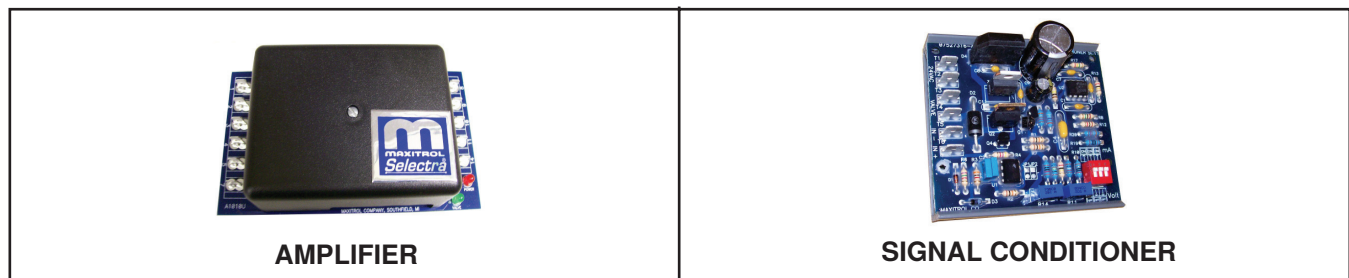
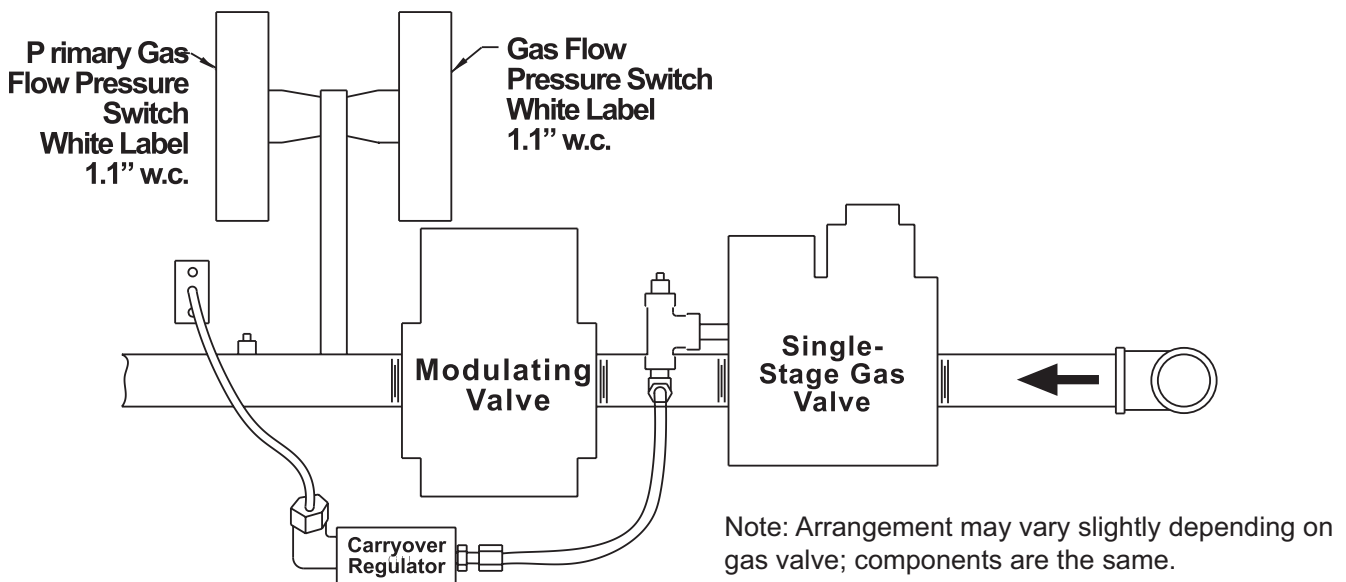

Figure 20. Maxitrol Amplifier and Signal Conditioner
Figure 21. Options AG39, AG40, and AG42 Manifold Arrangement
- **Electronic modulation between 50% and 100% firing rate (option AG8):** Electronic modulation for makeup air application that is controlled by a duct sensor and temperature selector (55–90°F (12.8–32.2°C)). The temperature selector setting for option AG8 is on the amplifier (see Figure 20). Available with an override thermostat.
- **Electronic modulation between 50% and 100% firing rate (option AG21):** With option AG21, the furnace is equipped with a Maxitrol signal conditioner (see Figure 20) that operates much the same way as the amplifier above to control the regulator valve. The signal conditioner accepts an input signal of either 4–20 milliamps or 0–10V from a customer-supplied control device such as a computer. With the dip switches on the conditioner positioned to ON, the conditioner accepts a 4–20 milliamp signal. With the dip switches on the conditioner positioned to OFF, the conditioner accepts a 0–10V signal. The conditioner converts the signal to the 0–20V DC current required to control the modulating valve.
- **Electronic modulation between 20–28% and 100% firing rate (option AG39):** Depending on its size, a furnace equipped with option AG39 has a 20–28% turndown ratio. The furnace will ignite at any input rate in the available range and will maintain average thermal efficiencies equal to or greater than the thermal efficiency at full fire. When the valve receives a call for heat from the amplifier and pilot is established, gas flow from the single-stage valve goes to both the modulating valve and the regulated lighter tube system. When the signal from the amplifier to the modulating valve requires less-than-high fire operation, the modulating valve functions to lessen the gas flow to the burner to reduce the input rate to that which is necessary to maintain the desired temperature. When the input rate is reduced enough to decrease the gas pressure to 1.1 IN WC, the primary gas pressure switch in the manifold activates the gear motor that controls the bypass damper in the venter/combustion air system. The bypass damper opens to divert some of the incoming air directly into the flue duct to reduce air flow through the burner. Safety switches monitor the position of the bypass damper. When the gas pressure rises to >1.1 IN WC, the bypass damper closes. The gas train (see Figure 21) includes a single-stage gas valve, a modulating valve, and two gas pressure switches. The burner rack is equipped with one flash carryover and a regulated gas lighter tube system. The carryover lighter tube receives its gas supply through the regulator simultaneously with the gas to the burner. Control of the system is through a Maxitrol amplifier (see Figure 20) with a corresponding remote temperature dial. The gas supply (refer to pressure requirements in Table 17) connects to the single-stage gas valve. To compensate for additional pressure loss through the modulating valve, the single-stage gas valve has a custom outlet pressure setting higher than when it is used on a standard gas manifold. The pilot tubing connects to the pilot port on the single-stage gas valve. The duct temperature sensor and mixing tube are shipped loose for field installation in the discharge duct. This uniquely-designed modulation system requires combustion air pressure settings different from the standard system. Refer to Table 15 for the approximate combustion air proving switch settings at sea-level operation. Refer to the Troubleshooting Bypass Combustion Air Damper Safety Circuit on Units with Option AG39, AG40, or AG42 section for troubleshooting.
Electronic modulation between 20–28% and 100% firing rate (options AG40 and AG42): The furnace is equipped with a Maxitrol signal conditioner (see Figure 20) that receives an input signal of either 4–20 milliamps or 0–10V from a customer-supplied control device such as a computer. With the dip switches on the conditioner positioned to ON, the conditioner accepts a 4–20 milliamp signal. With the dip switches on the conditioner positioned to OFF, the conditioner accepts a 0–10V signal. The conditioner converts the signal to the 0–20V DC current required to control the modulating valve. The heater functions and is equipped in the same way as option AG39 except that with computer control, the temperatures are selected through the software and there is no temperature selector or duct sensor. This uniquely-designed modulation system requires combustion air pressure settings different from the standard system. Refer to Table 15 for the approximate combustion air proving switch settings at sea-level operation. Refer to Table 17 for pressure requirements. Refer to the Troubleshooting Bypass Combustion Air Damper Safety Circuit on Units with Option AG39, AG40, or AG42 section for troubleshooting.